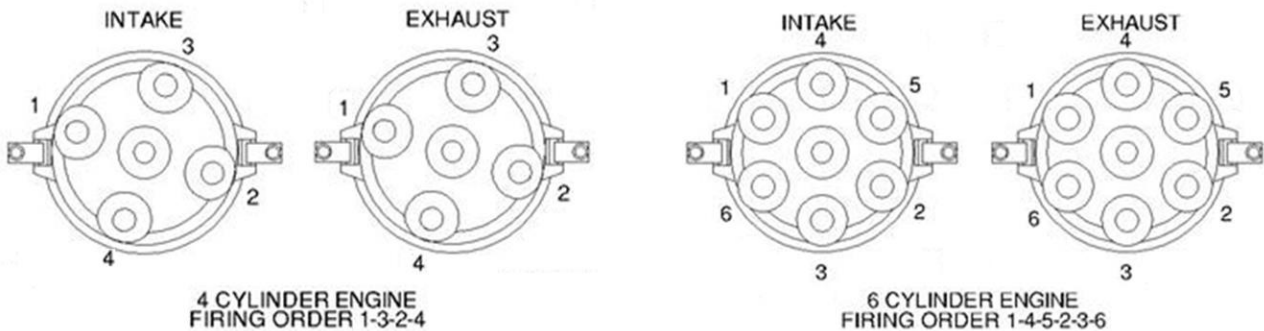

Figure 202 – Firing Order of Distributor Caps
- Note that in Figure 202 all distributors are shown looking from the flywheel end of the engine. “Exhaust” and “Intake” refer to the position of the spark plugs in the cylinder – on the exhaust or intake side of the head.